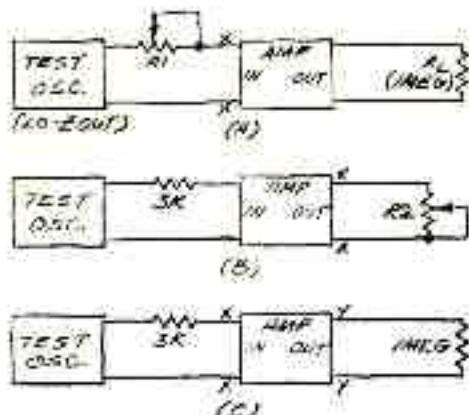

Fig. 9. Testing input/output impedances.
- 8. You may not wish to perform this last step, but if you have an audio generator, use the hookup shown in Fig. 9 to measure the important parameters of the circuit. Figure 9A is used to measure input impedance. Adjust R_1 until the voltage at the input is half its maximum value. (The value of R_1 should be greater than the estimated input impedance of the amplifier.) Then remove R_1 and measure its resistor-end resistance.